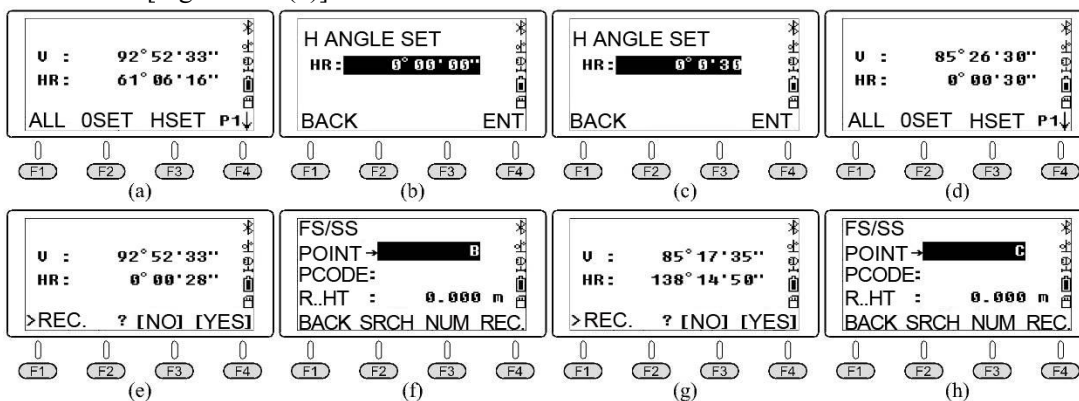

Figure2-10 The measurement of $\angle BAC$ by the method of observation set
Press F1 (ALL) and button F4 (ENT). Input the point name as B measured in face left [Figure 2-10(c)]. Press F4 (ENT) to save the reading of horizontal and vertical to the current file "180105_1".
② Turn the telescope clockwise, aiming at target point C. Press F1 (ALL) and button F4 (YES) [Figure 2-10(d-e)]. Input the observed point name as C [Figure 2-10(h)]. Press F4 (YES) to save the readings of horizontal and vertical angles to the current file.
③ Turn vertically the telescope to face right, and then turn the telescope counter clockwise to aim at the target point C. Press button F1 (ALL) and button F4 (ENT) to input the observed point name as C. Press button F4 (YES) to save the readings of horizontal and vertical angles to the current file.
④ Turn the telescope counter clockwise to aim at point B. Press button F1 (ALL) and button F4 (ENT). Input observed point name as B. Press button F4 (YES) to save the
① List-New: Press button **(F1)** (New) to create a file and set it to be the current file, as shown in Figure 2-10. The name of the new file is 180105_1.